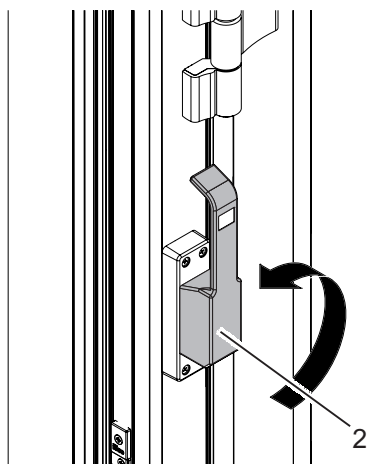

Fig. 4: Door lock bar up = sliding mode
2. If necessary, move the door lock bar (Fig. 4) by 180° upward into the sliding mode.